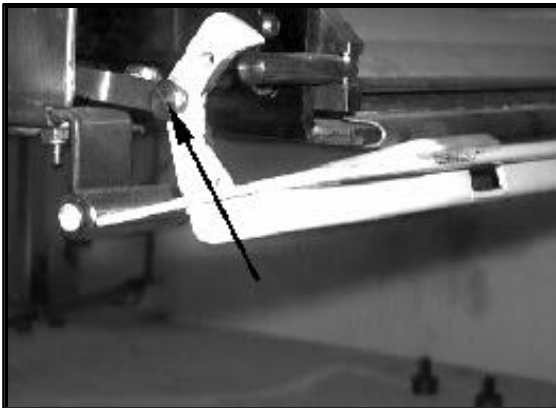

FIGURE 4-3: SPRING EXTENSION RODS
- d. Refer to Figure 4-3. Remove two bolts (one on each side of enclosure door) fastening spring extension rods to door hooks.